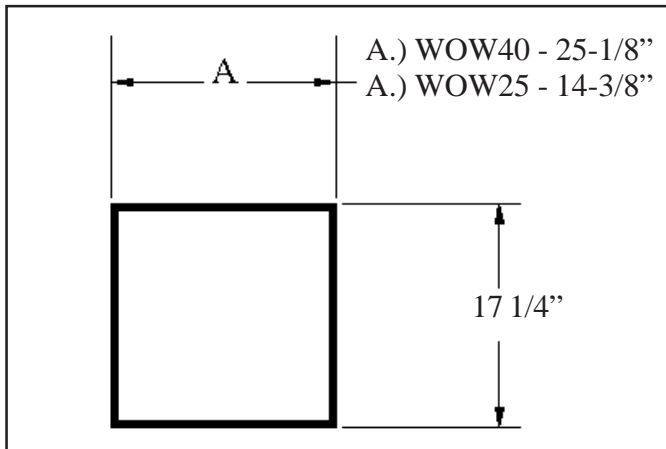

FIGURE 11
A.) At desired height, mark hole opening for your model heater. (See Figure 11).
- A.) At desired height, mark hole opening for your model heater. (See Figure 11).